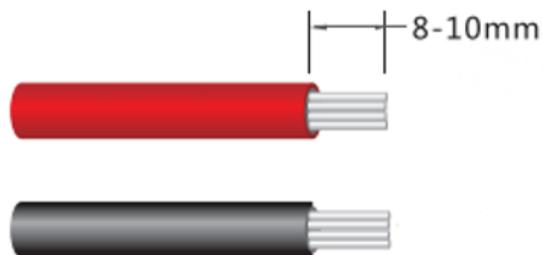

Figure 4-12 Wire Stripping
1. Remove an appropriate length (see Figure 4-12) of the jacket and insulation layer from the PV input cable of the PV strings.